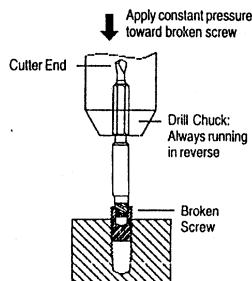

Figure 3 - Extracting
13. Bring drill to suggested speed listed in Table 2. Faster speeds than listed may break the extractor. Holding the drill firmly with both hands, plunge extractor into the hole while applying pressure toward the broken bolt; the bolt is automatically extracted. See Figures 3 and 4.